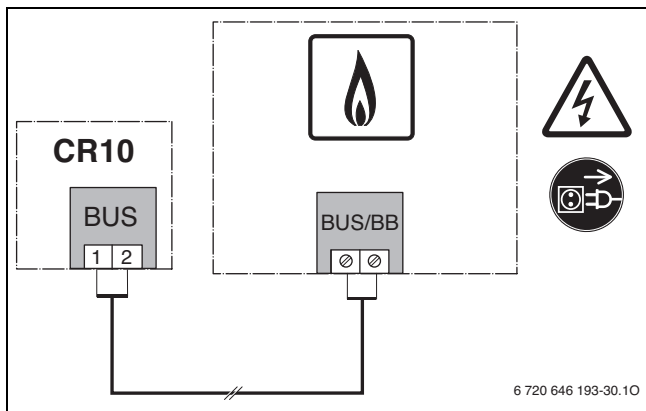

Fig. 6
- ▶ Etablir la connexion BUS (→ fig. 6, page 18)